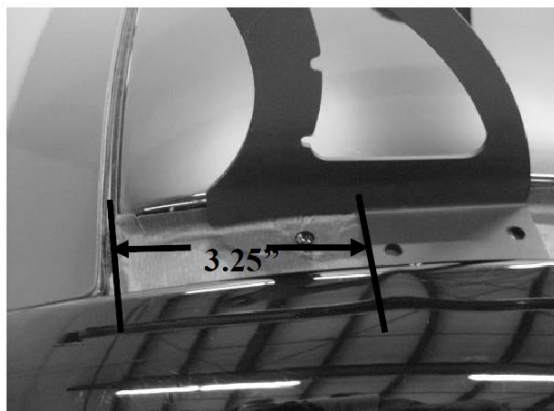

Figure 1
7. Place tape in both drip rails where bracket will be mounted and mark drill holes with a marker. See **Figure 1** for mounting location.